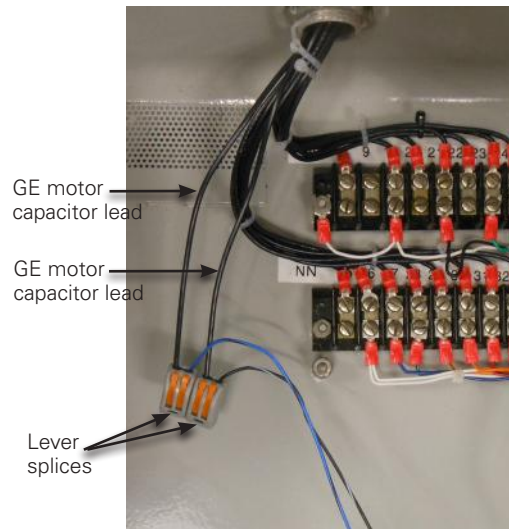

Figure 38. Connecting GE motor capacitor leads to locate capacitor in new control box.
- Using one of the 2-position lever splices, connect one capacitor lead from the conduit to either of the motor capacitor leads from the fork terminal wire harness. Repeat the connection for the remaining set of capacitor leads. See Figure 38.